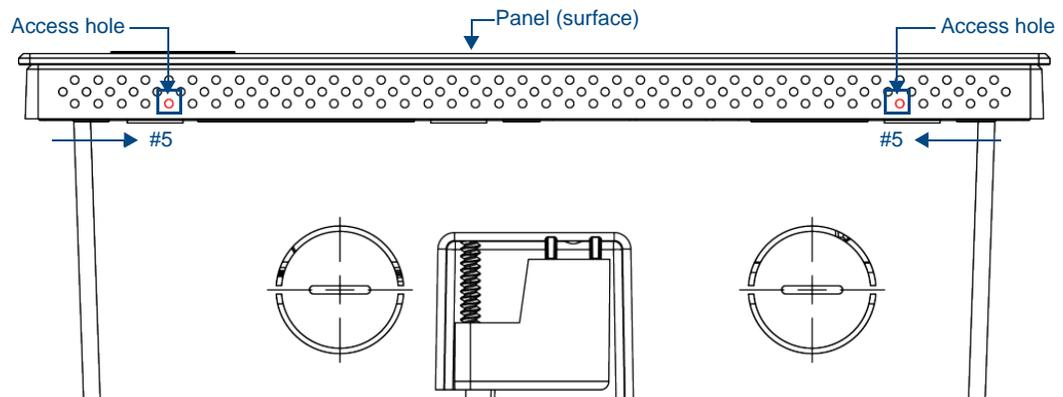

FIG. 39 Bottom View (Landscape) or Right-Side View (Portrait) of the MXD-700 showing access holes in molding
2. On the bottom (Landscape) or right side (Portrait) of the MXD-700, locate the **fifth** ventilation holes from each edge, on the row closest to the Backbox (FIG. 39): .